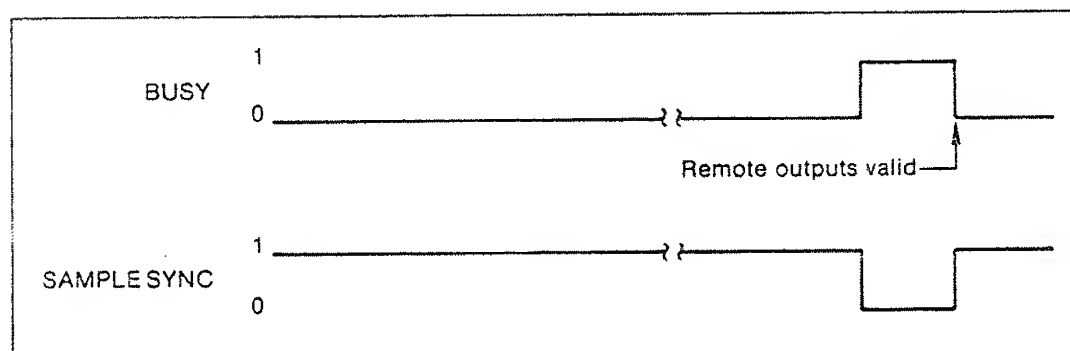

Figure 8-13. Burst Memory Scan Timing
8-113. Burst Memory can be used if measurement readings are required at a reading rate faster than the BCD Interface can process the data. To use the burst memory, manually program the instrument to store the required number of readings at the desired reading rate. (External Trigger can be used to initiate a burst). Once the data is stored, it can be placed on the output lines for transfer through the BCD Interface at the appropriate rate. The Busy and Sample Sync signals perform the same in the Burst scan mode as they do in the internal trigger mode. When Busy is high (1) the data outputs are invalid. When Busy is low (0) the data outputs are valid. See Figure 8-13.